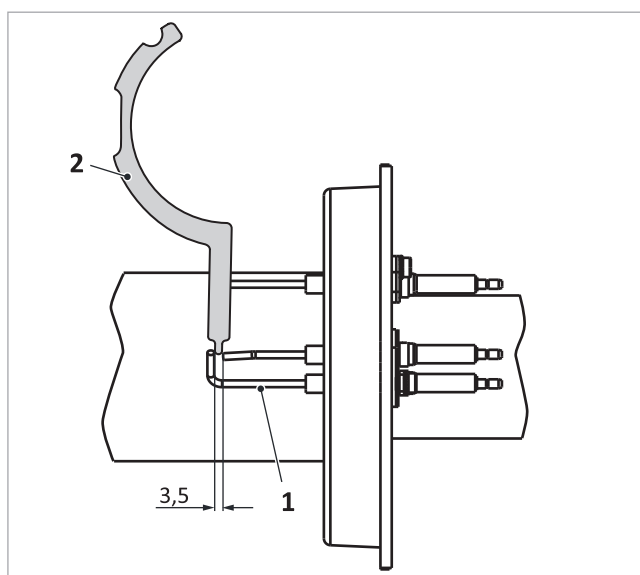

Fig. 48: Clearance from electrode to gauges on the ignition electrode
3. Check the clearance of the ionisation electrode using an electrode gauge → fig. 48 (2) (if necessary, correct it through careful bending).
- Electrodes below one another → fig. 48 (1): 3.5 mm